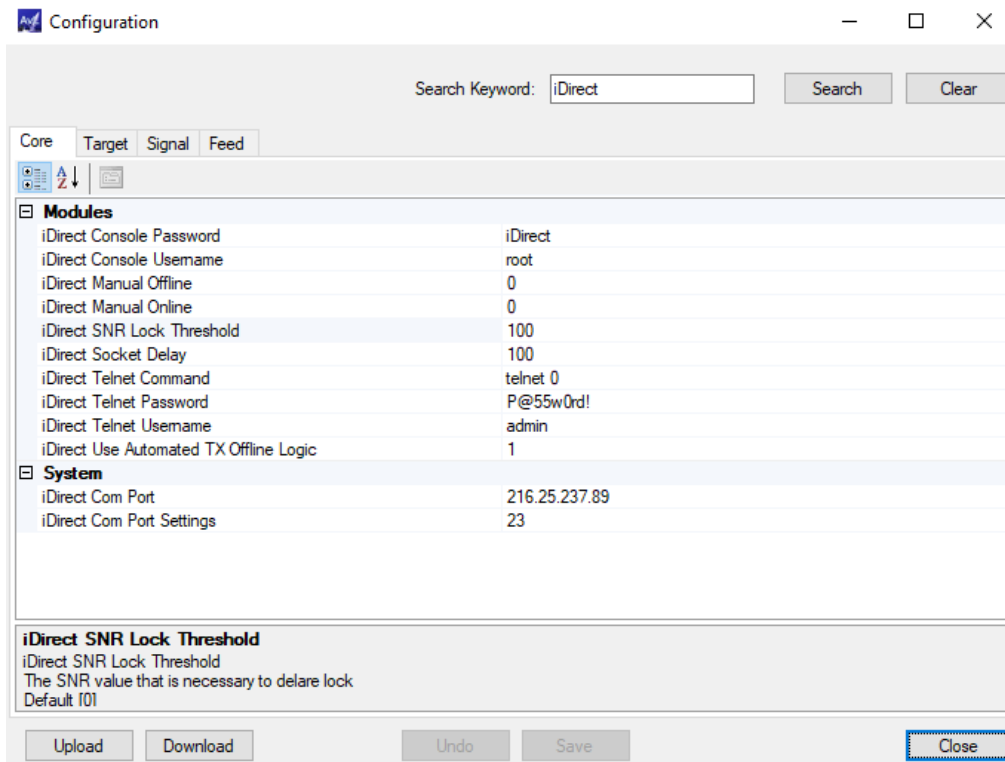

Figure 6 - Core Configuration Window, Module Configuration
- Figure 6 - Core Configuration Window, Module Configuration 7